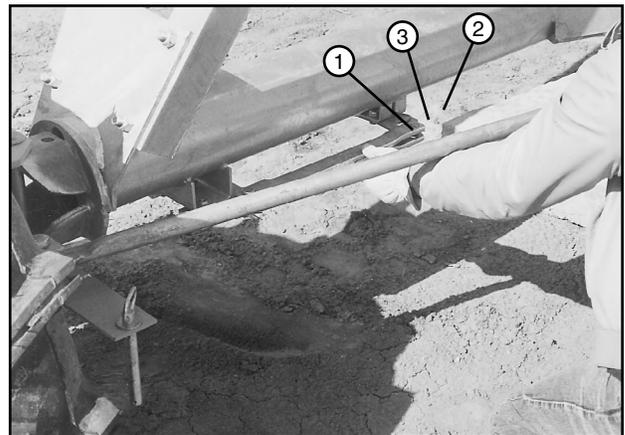

Figure 39-3 1. Tow Link Bar
11. Rotate each tow link bar into the tow link carrier until the carrier spring latches into the hole in tow link bar. See figure 39-3.